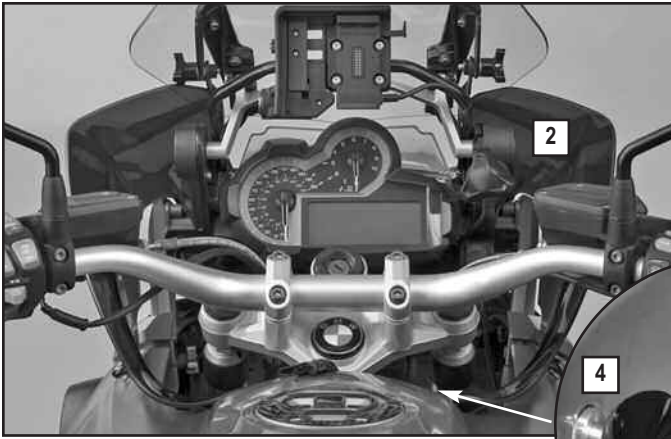

Figure 5
4. Place one Compression Limiter (4) into the rear hole on tank as shown in figure 5. **Figure**
5. Insert Screw (5) into Cap with Washer (3,7). Install Winglet (2) using this assembly. **(3mm Hex Key) Figure 5**